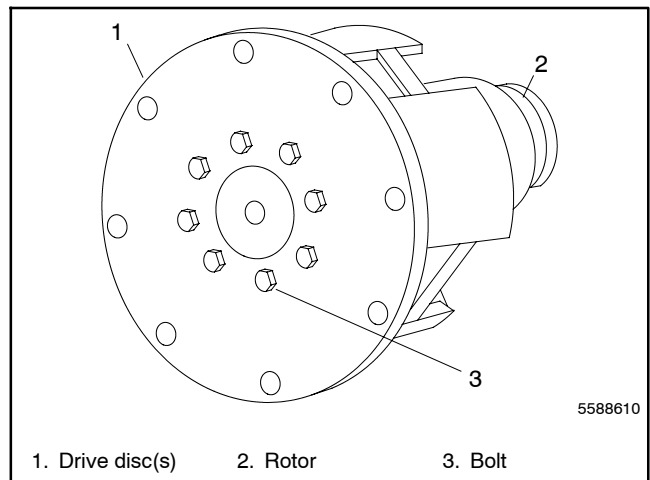

Figure 4-15 Drive Disc(s) Installation
2. Clamp the rotor in a soft-jaw vise. Apply thread sealant to the bolt threads. Install the drive disc(s) on the rotor and torque the eight bolts to specifications. See Figure 4-15.